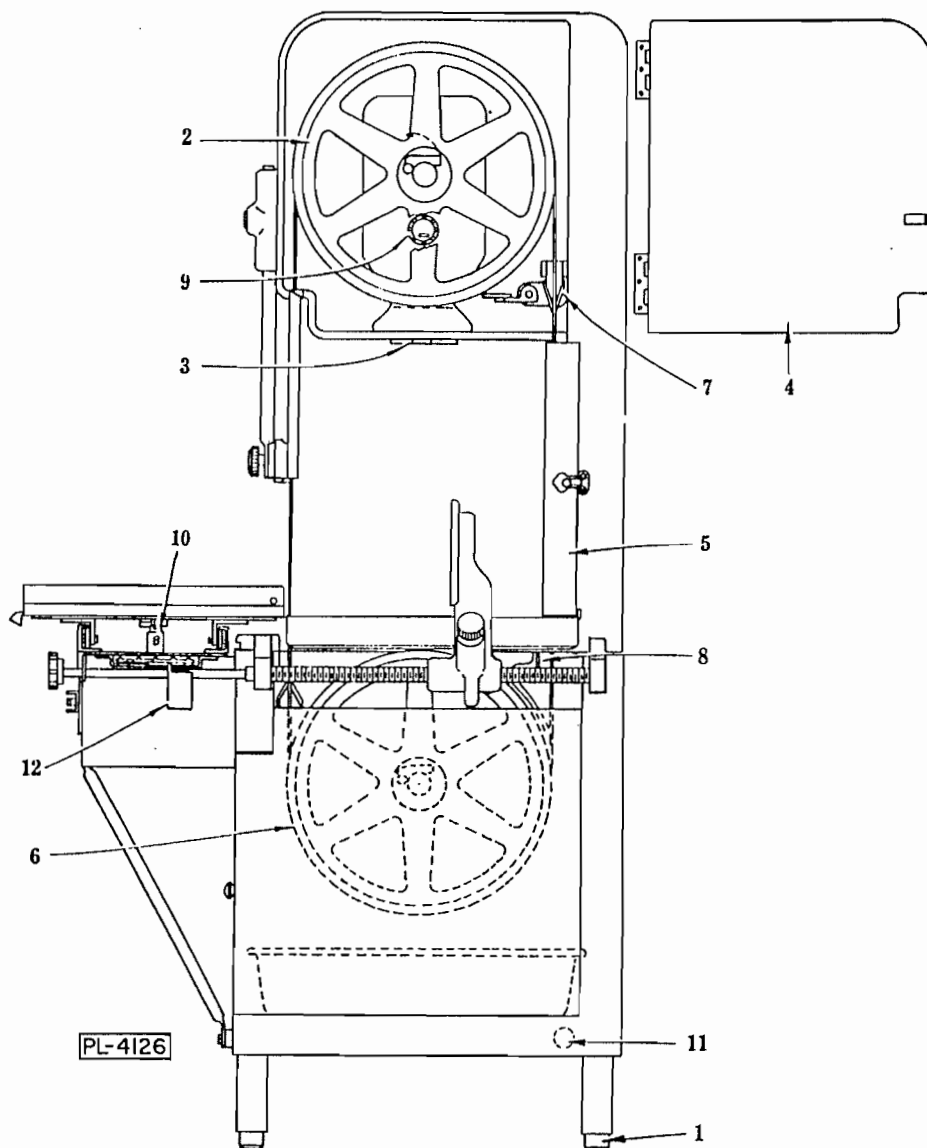
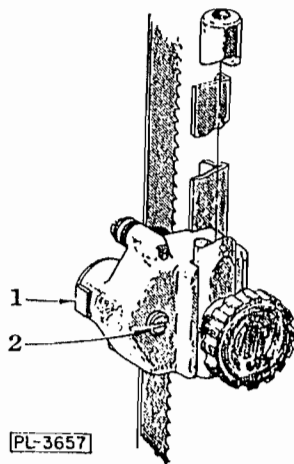
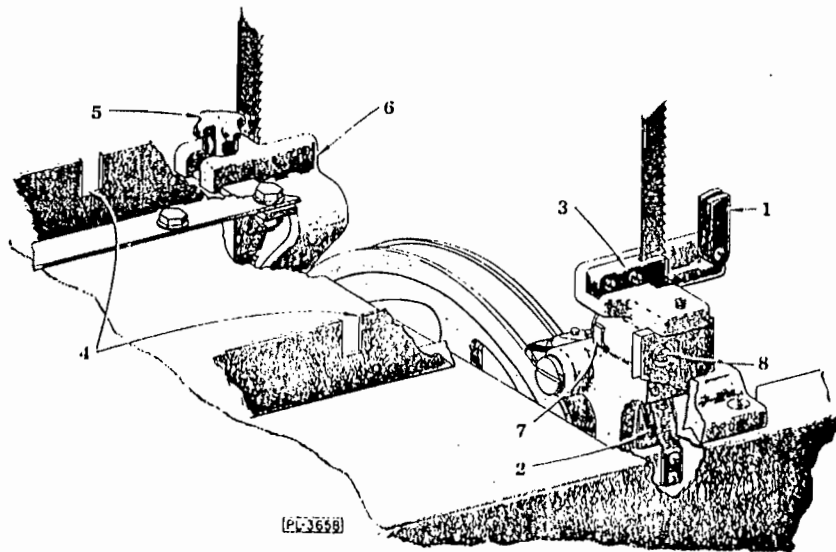
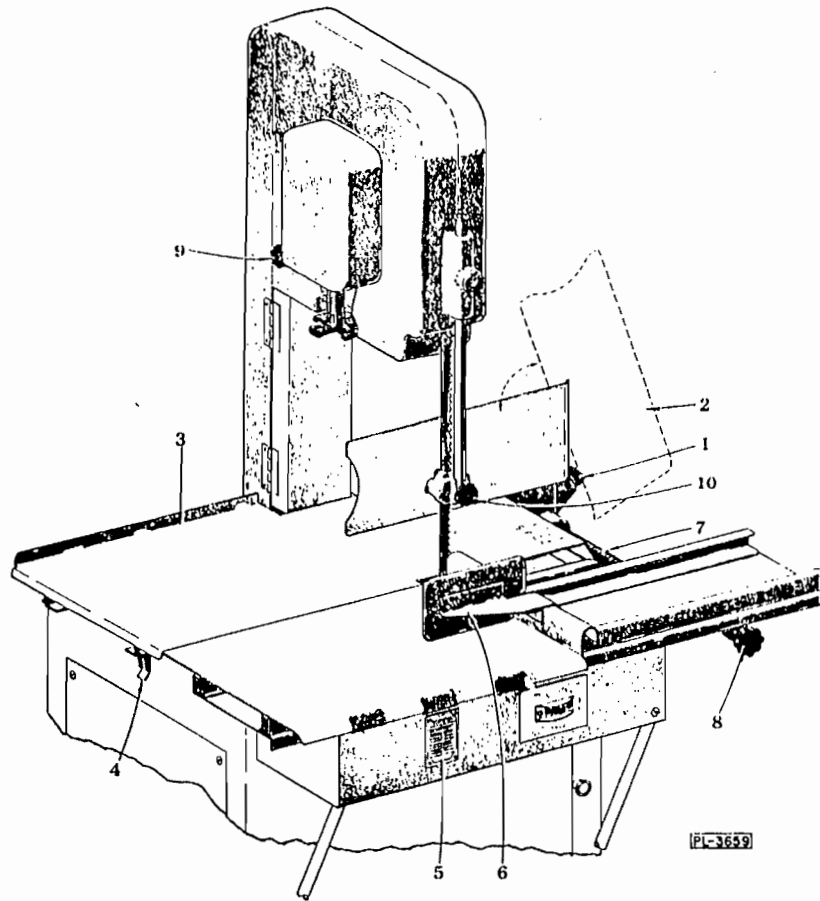

FIG. 1
FIG. 2
FIG. 3
FIG. 4
(1) Place the machine in the location where it is to be used. Re-assemble the feet (1, Fig. 1). Place a spirit level on top of the base unit and adjust the feet in the legs so that the base unit is level from side to side and front to back.
(2) Remove the motor access panel on the left side of the machine. Then using the two taper pins as locators, attach the front track and gusset assembly with the four retaining screws. Next assemble the two base plate support braces.
(3) Assemble the gage plate adjusting knob with shaft into position and lock in place with the rollpin furnished.
(4) Lower the upper blade pulley (2, Fig. 1) by giving the tension adjustment hand wheel (3, Fig. 1) a few turns to the left. Open the head door (4, Fig. 1), then unlatch and open the column cover (5, Fig. 1). Lift the knurled hand knob (1, Fig. 4) and raise the gage plate (2, Fig. 4) to its stopped position. Lift out the lower front wiper unit (Fig. 3) and lower the upper guide unit (Fig. 2) to its lowest position. Place the saw
blade over the upper blade pulley (2, Fig. 1) and lower blade pulley (6, Fig. 1). The teeth must point to the right and downward when viewed from the front as shown in Fig. 3. If they do not point downward, remove the blade, twist inside out and replace it on the saw. Make sure the blade is properly centered in the upper blade wiper (7, Fig. 1), the lower rear blade wiper (8, Fig. 1), and properly placed in the upper guide unit (Fig. 2). Turn the tension adjustment hand wheel (3, Fig. 1) to the right until the tension indicator (9, Fig. 1) reads "2." Give the upper blade pulley a few turns by hand so that the blade centers itself on the pulleys. Then turn the tension adjustment hand wheel slowly to the right until the indicator registers approximately "4". This is the best operating tension for the blade.
(5) Close the head door (4, Fig. 1) and column cover (5, Fig. 1).
(6) Assemble the lower front wiper unit (Fig. 3). Before sliding it into place, swing up the bakelite guard (1, Fig. 3) and see that the saw blade is between the two wipers (2, Fig. 3) and in the guide slot of steel block (3, Fig. 3). After sliding the unit into place, close down the bakelite guard (1, Fig. 3).
(7) With the gage plate (2, Fig. 4) in the raised position (clear of the table area), assemble the table (3, Fig. 4). The table is positioned by the locating slots (4, Fig. 3) in the table rest angles of the base. Make sure the reinforcing angles of the table are outside the table rest angles of the base. Lock the table in place by the spring catch (4, Fig. 4).
(8) The carriage may be assembled from either side. When rolling the carriage into place depress the carriage stop (10, Fig. 1). After this stop is released, the carriage will then be retained from rolling off.
Check the data on the name plate (5, Fig. 4) to make sure that it agrees with your electrical supply before connecting to the power line. Make your installation connection from the power line directly to the switch. To avoid having conduit at the front of the machine, it is recommended that flexible (or rigid) conduit be connected through the electrical inlet hole in the base (11, Fig. 1). The conduit connector on the end of the motor lead conduit should be assembled in the knock-out hole in the switch box. Next connect the motor leads to the switch.
(1) UPPER GUIDE ASSEMBLY (Fig. 2): Keep as low as the size of the work permits.
(2) DOORS: Keep all doors closed while the machine is running.
(3) BUTT-END PUSHER (6, Fig. 4): Use the pusher plate as described in paragraph VI and it will be unnecessary to hold your hand near the running saw blade.
(4) GAGE PLATE: The end of the gage plate (2, Fig. 4) is shaped to give maximum support and protection at this critical point, and at the same time, facilitate the taking off of slices.
(1) Keep a small amount of grease in the six ball bearing rollers on the carriage.
(2) Apply a few drops of oil occasionally to the gage plate screw (7, Fig. 4) and work the gage plate assembly back and forth a few times.
(3) Once a year, have a Hobart Service man look over the motor and main bearing carriers.
When cutting slices of uniform thickness, set the gage plate at the desired point with adjusting knob (8, Fig. 4) on the scale etched on the table. If the gage plate is not needed and interferes with the work, it may be raised out of the way. Lift the release knob (1, Fig. 4) and slide the gage plate on back to the end of gage plate screw (7, Fig. 4). The gage plate may be swung to a raised position at any setting along the gage plate screw without lifting the release knob.
To slice short ends, use the pusher plate (6, Fig. 4) to hold the meat against the gage plate. A rolled groove of the pusher plate slips over and slides along the rolled edge of the carriage. By holding the pusher plate with your right hand, your hand will then always be a safe distance from the saw blade and the stop will prevent the pusher plate from going too far. When not using the pusher plate, keep it stored beneath the carriage track, where provision has been made for holding it (12, Fig. 1).
(1) Roll carriage to extreme right or left. This exposes the carriage stop. Depress carriage stop and roll off stainless carriage.
(2) Rotate gage plate to raised position.
(3) Release spring catch and remove stainless steel table.
(4) Loosen the hand knob (9, Fig. 4), bump with hand to loosen stud and then remove the hand knob. Open head door and lift out upper blade wiper. Clean unit and lubricate with TASTELESS oil.
(5) Swing lower saw blade guard (1, Fig. 3) up and lift out lower wiper assembly. Clean unit thoroughly and lubricate with TASTELESS oil.
(6) Loosen hand knob (5, Fig. 3) and remove lower rear blade wiper (6, Fig. 3). Clean unit.
(7) Open base door and remove scrap pan.
(8) Release blade tension by turning tension adjustment hand wheel to the left. Open head door, unlatch and open the column cover. Remove saw blade.
(9) To remove the upper guide unit, remove the hand knob (10, Fig. 4) (blade tension already released) then lift off unit. Clean, lubricate with TASTELESS oil and replace.
(10) The upper and lower blade pulleys may be removed from their shafts by swinging the retaining latches clear of the shafts, then sliding the pulley from the shaft. Clean pulleys and lubricate bore before replacing.
(1) Move the carriage to the left to the stop, then depress the stop and move the carriage a few more inches just beyond the bakelite guard.